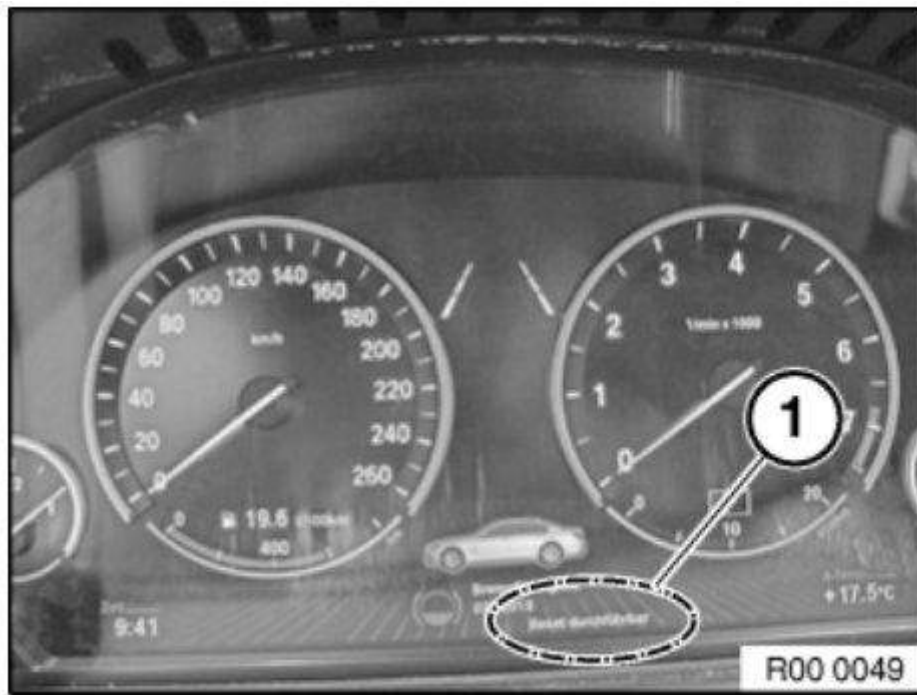

Fig. 11: Identifying Condition Based Service (CBS) Instrument Panel Controls & Display (2 of 5)
5. If a reset is possible, this is displayed in the instrument panel as "Reset executable". See Fig. 11.